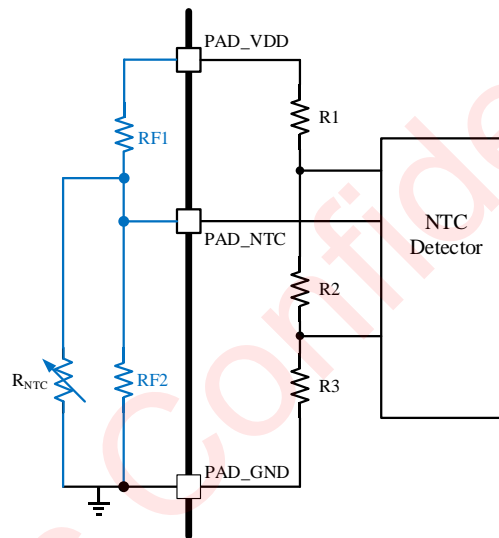

Figure 16 NTC Function
NTC pin is connected to the thermistor paralleled with a resistor R_{F2} to ground. Another resistor R_{F1} is connected to the VDD which is the chip's internal power supply voltage. The high temperature limit and low temperature limit can be varied by using different R_{F1} and R_{F2} . Illustrated in Figure 16, the off chip resistors must be connected as the blue part demonstrated. The resistance of R_{F1} and R_{F2} can be calculated by Equation (1) and Equation (2):